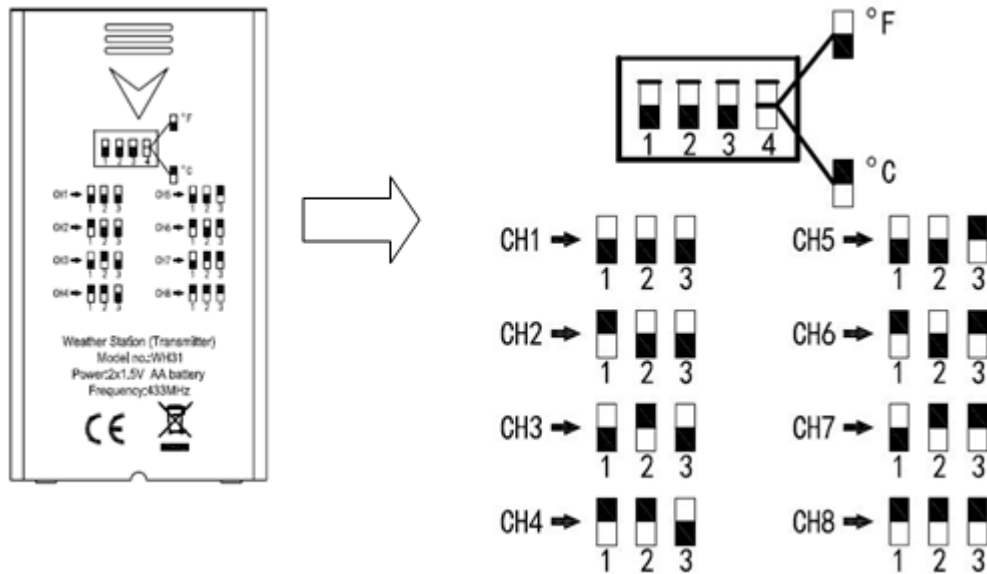

Figure 3
channel number (the default is Channel 1), change Dip Switches 1, 2 and 3, as referenced in Figure 3.
4. **Temperature Units of Measure:** To change the transmitter display units of measure (°F vs. °C), change Dip Switch 4, as referenced in Figure 3.